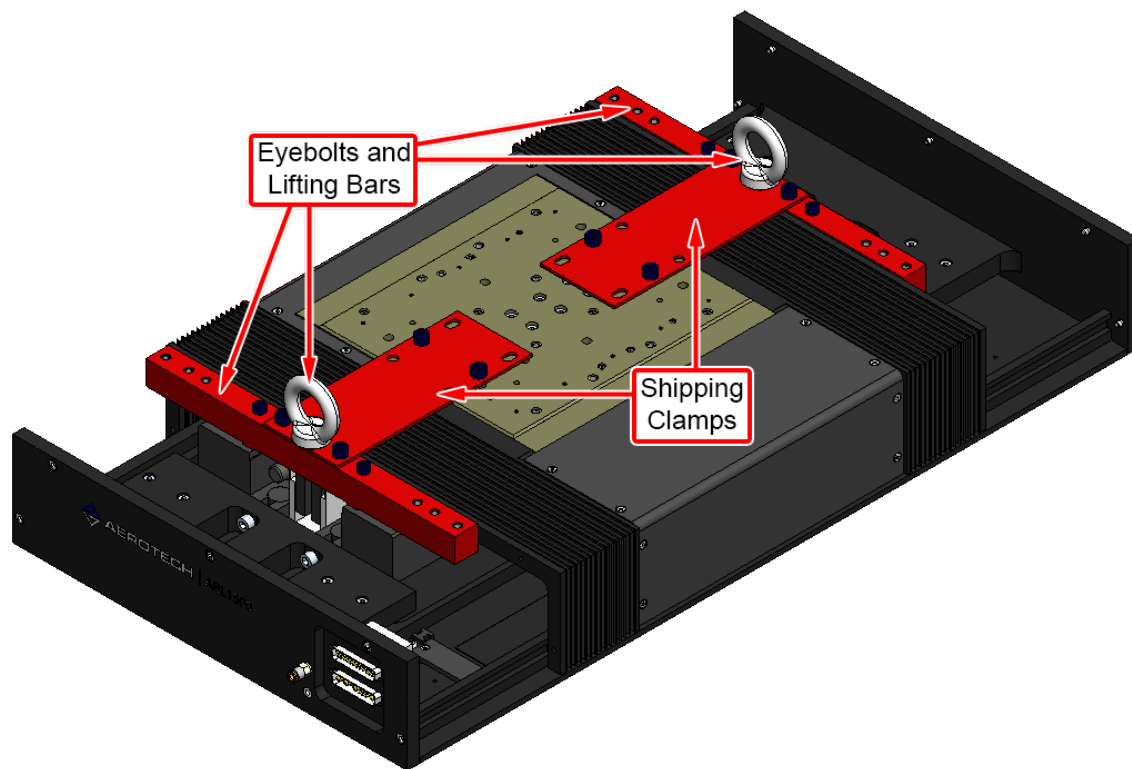

Figure 2-1: Lifting Features and Shipping Clamps
ABL1500-B stages come equipped with lifting bars and eyebolts attached to the stage as shown in Figure 2-1. The bellows are detached from the end-plates to allow access to these features. For multi-axis assemblies, always lift the system by the lower axis. Lifting by the upper axis may disturb precision alignments on the system.
4. Remove the lifting equipment and shipping clamps (Figure 2-1). Save the brackets for future use.